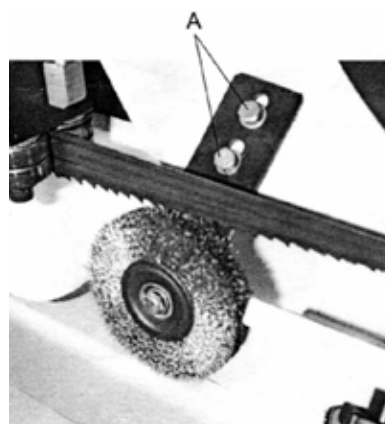

Figure 12. Chip Brush
3. Loosen bolts (Figure 12, **A**).